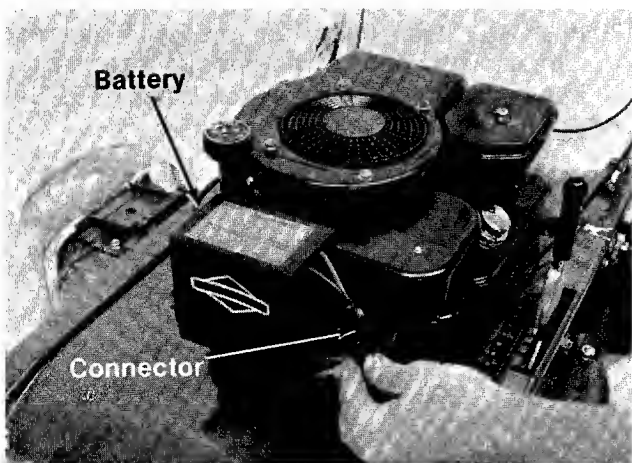

FIGURE 14.
21. Place the charged battery in position on the battery bracket as shown in figure 14.
22. Plug the connector on the battery into the connector on the wire harness on the mower. See figure 14.